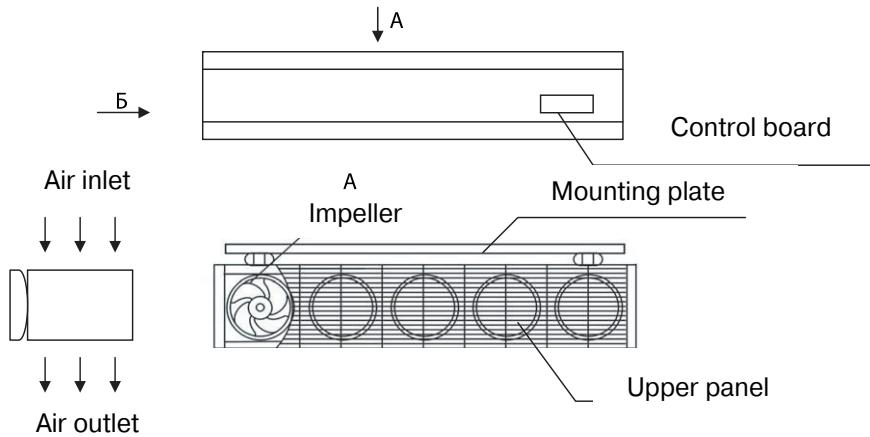

Figure 1 – Air Curtain assembly.
4.1 Axial wind wheels type with motors are installed in metal cabinet of Air Curtain (Fig.1). The number of wind wheels is from 5 to 8 (depending on Model).